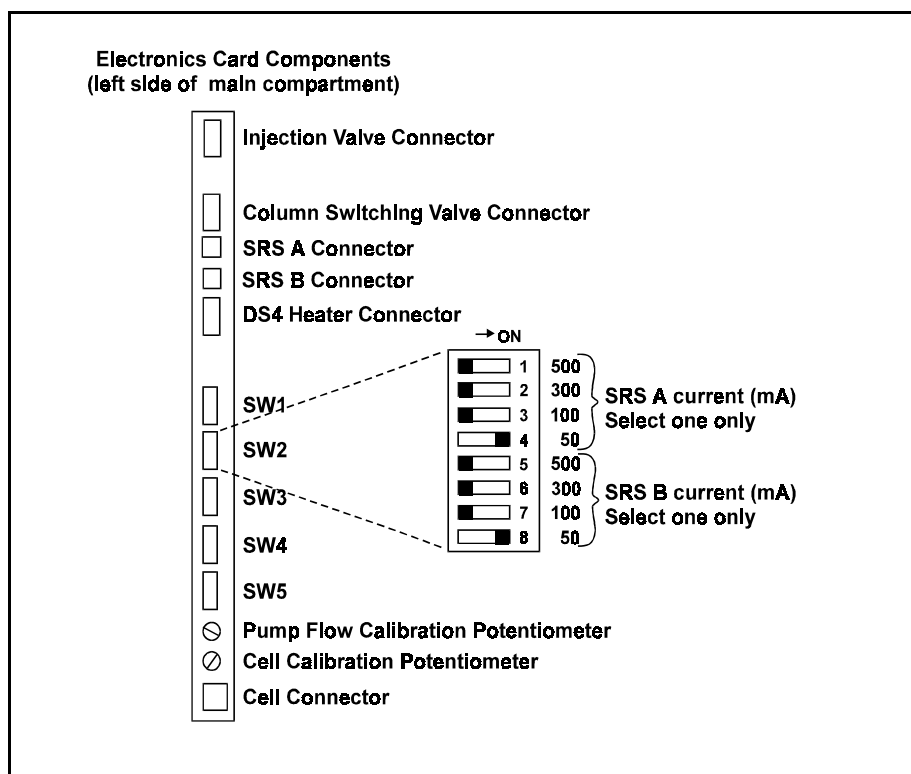

Figure B-10. Electronics Card Connections
1. For a single-column system, plug the cable from the SRS into the matching cable extending from the SRS A connector on the electronics card (see Figure B-10).
2. Select the SRS current setting(s) with SW2. Figure B-10 shows the default settings. Refer to the SRS manual for the recommended setting for your application.